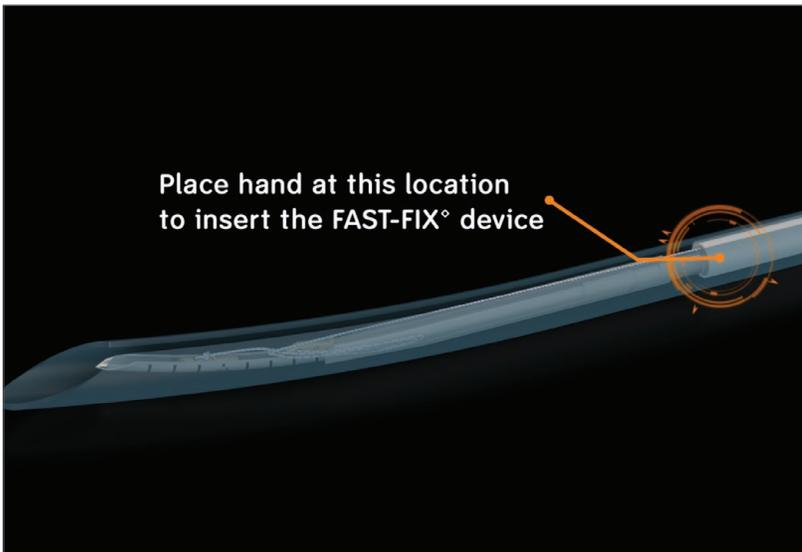
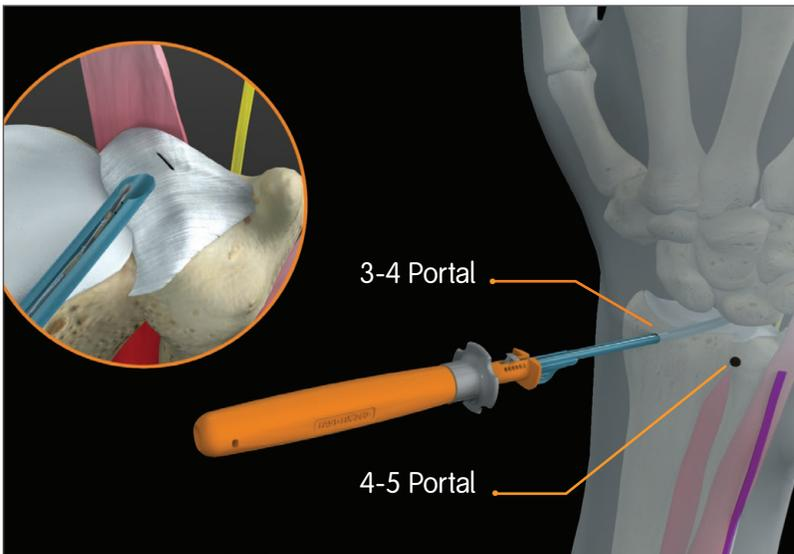

Figure 2
Figure 3
6. Hold the shaft of the FAST-FIX® 360 delivery device in the area of the distal end of the white tube, to minimize bending of tip. (See **Figure 2**) With the arthroscope in the 4–5 portal looking ulnarly at the periphery of the TFCC, introduce the curved FAST-FIX 360 Delivery Device through the 3-4 portal into the ulnocarpal joint using the split cannula, as shown in **Figure 3**.